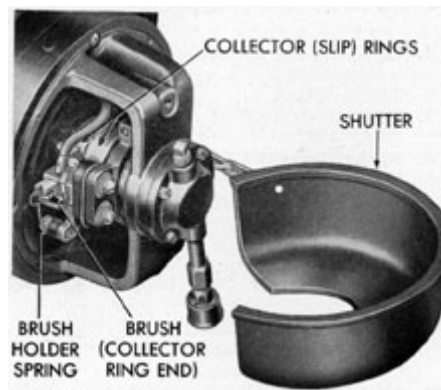

Figure 5-77. Rotary converter, collector ring shutter removed.
**5N5. Removing the collector ring brushes.** (See Figure 5-77.)
**5N7. Installing the collector ring brushes.** (See Figure 5-77.)